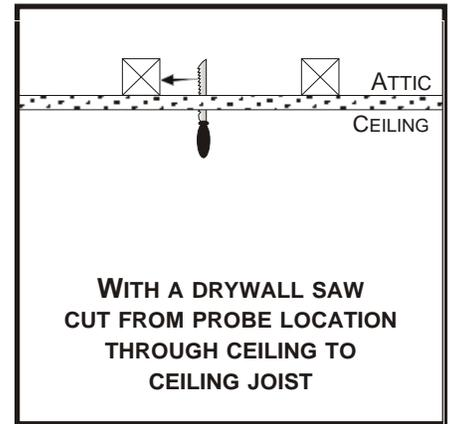

Figure 2
4. Locate the ceiling joist. The side of the pipe will attach to this ceiling joist. With a drywall saw cut through the ceiling to the ceiling joist (Fig. 2). Use the enclosed compass to locate the center of the hole for the pipe (Fig 3). Using the compass (keep the center of the compass straight up and down) draw a 5 1/2" inch, 8 inch or 13 inch circle on the ceiling. (Depending on the kit you have). If the ceiling is vaulted, keeping the compass vertical, the compass slides up and down on the center pipe creating an elliptical circle. Proceed by cutting the ceiling hole.